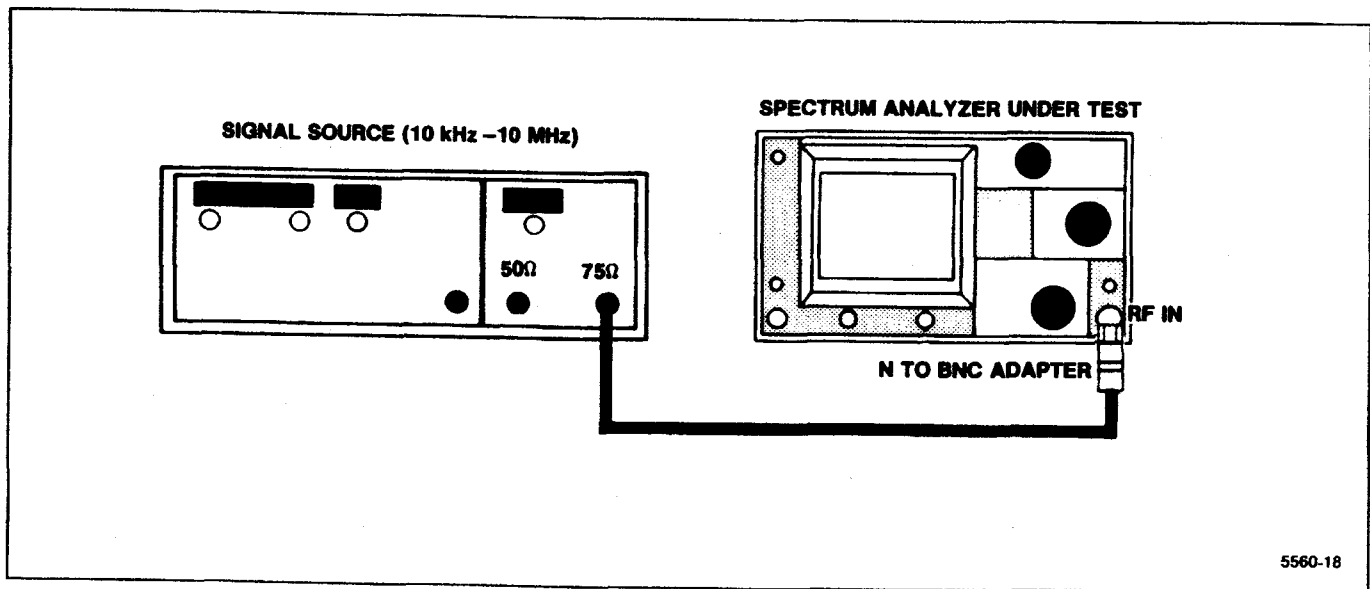

Figure 4-12. Test equipment setup for measuring 10 kHz to 10 MHz frequency response.
(1) Reconnect the test equipment as shown in Figure 4-12. Reset CENTER FREQUENCY to 10 MHz.
(2) Set the generator output for -20 dBm at 10 MHz, and set the Spectrum Analyzer controls as follows: